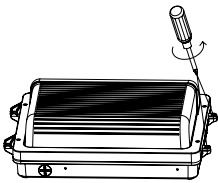

Figure 1
2. Use a screwdriver to remove the screws on both sides. (Figure 1)